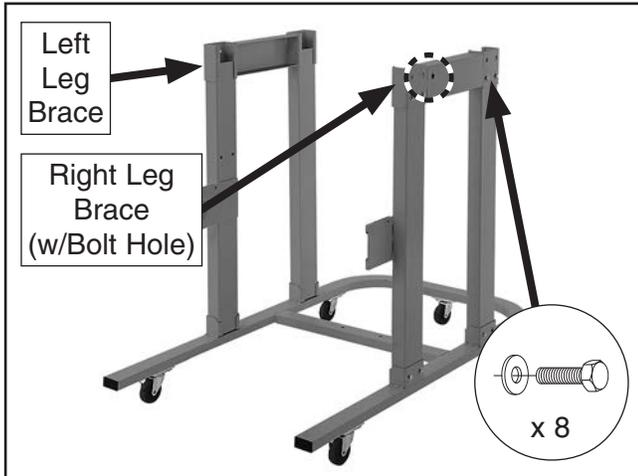

Figure 13. Left and right leg braces installed.
- Attach left and right leg braces to lower legs as shown in **Figure 13**, and finger-tighten each one using (4) $\frac{5}{16}$ "-18 x $\frac{3}{4}$ " hex bolts and (4) $\frac{5}{16}$ " fender washers per brace.